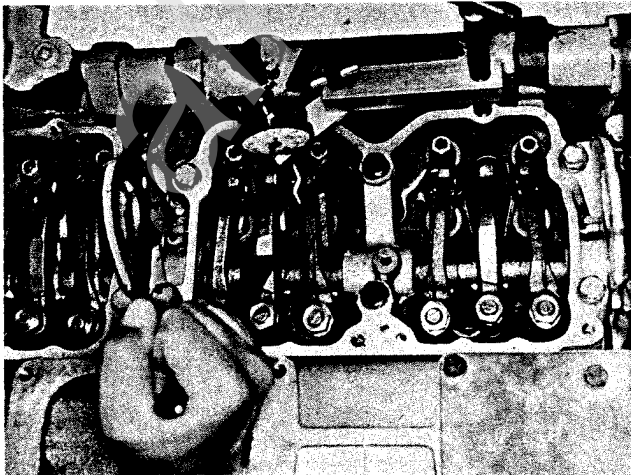

Fig. 2-42, (N114232). Checking injector plunger travel with ST-1170
3. Using ST-1193 Rocker Lever Actuator, bar lever toward injector until plunger is bottomed in cup to squeeze oil film from between plunger and cup. Allow injector plunger to rise and then bottom again and set indicator at zero (0). Lever should be released and plunger bottomed again to check setting. Fig. 2-42.